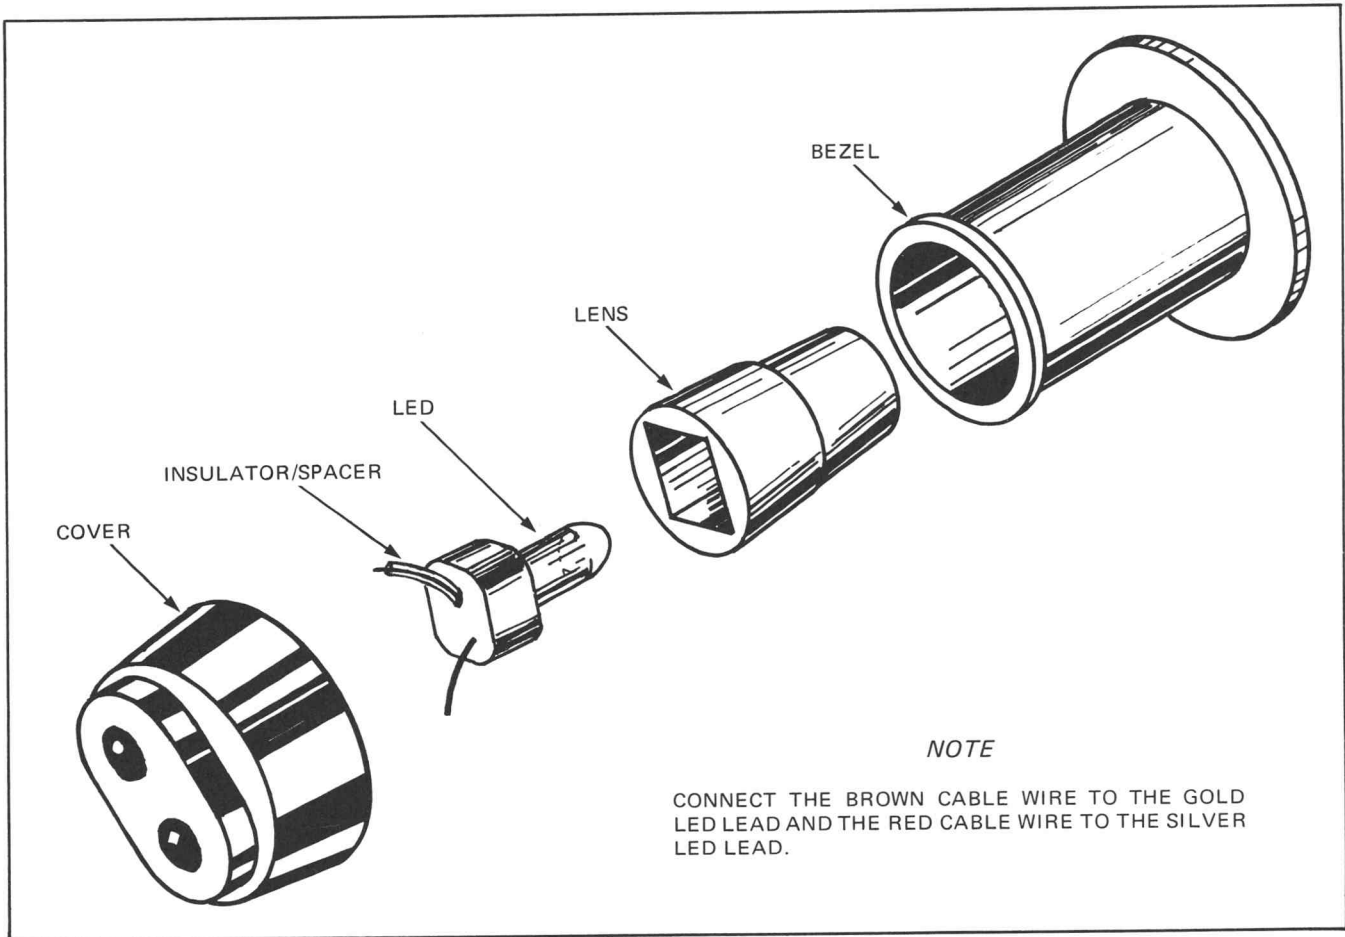

Fig. 4-7. Lead Fault Indicator Lamp assembly.
**LEAD FAULT LAMP REPLACEMENT.** Note the following important considerations, when replacing the LEAD FAULT LED (light emitting diode). See Fig. 4-7.
f. The lens has a square hole as shown in Fig. 4-7. Be sure to mate the essentially square LED body with it. The LED is in place when it is flush with the lens face.